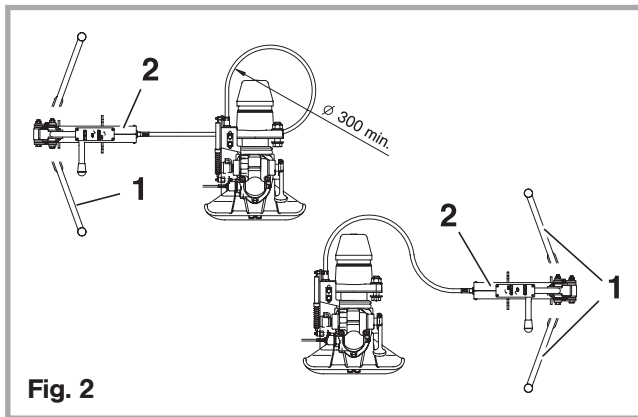

Fig. 2
If necessary, the hand lever (1) can be fitted at an angle of 90° (see Fig. 2). To do this release the bolts, turn the hand lever (1) in the desired direction and then tighten the bolts.
The master cylinder (2) can be fitted on the left or right on the tractor vehicle (see Fig. 2).